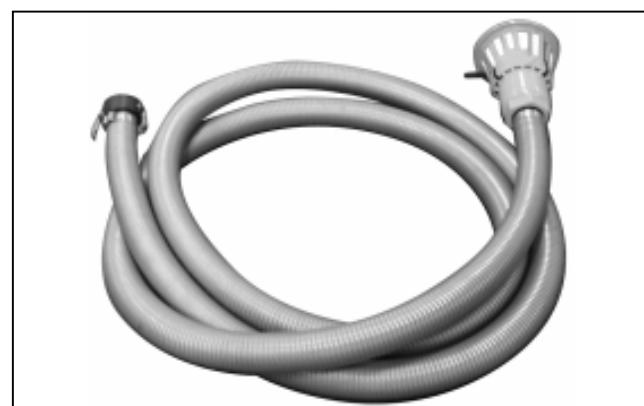

Fig. 10.5
- 2 Suction hose 3" (8m), Order No. 924459 (Fig. 10.5)